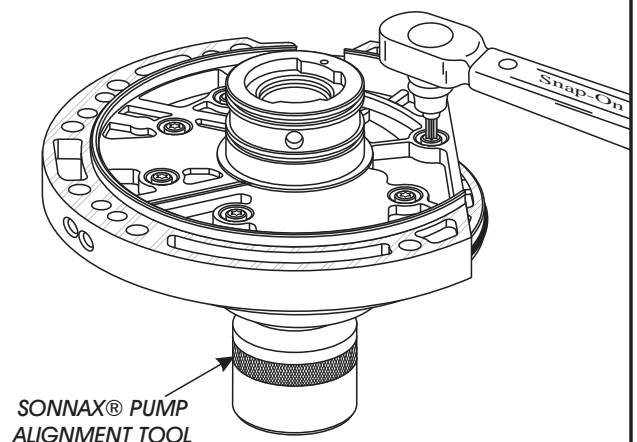

Figure 204
12. Torque oil pump to pump cover retaining bolts to 10 N·m (88 in.lb.), as shown in Figure 204, using a criss-cross pattern.